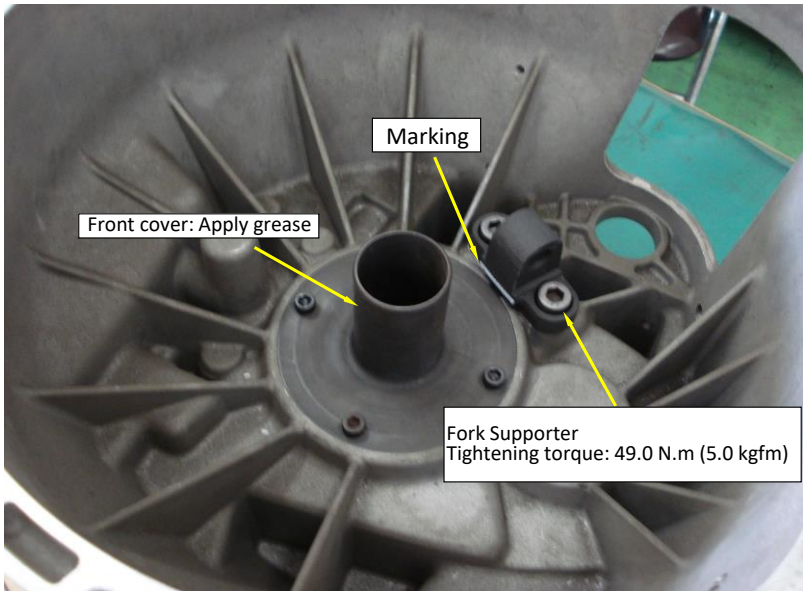

Fig. 1
6. There are white markings on the fork supporters. Fix the markings with the bolts facing the center. Hexagon socket head bolt M10 × 20 : 2pcs.Tightening torque: 49.0 N.m (5.0 kgfm)(See Fig.1)